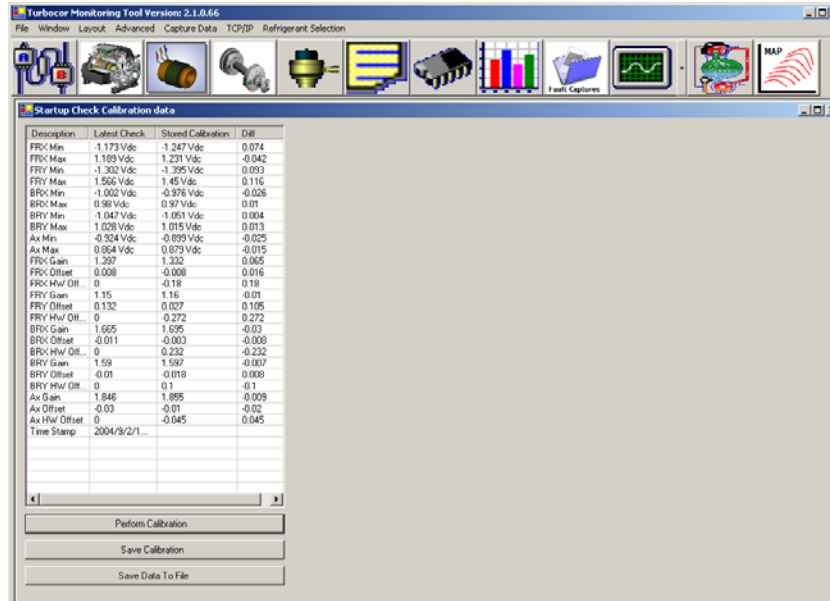

Figure 4-53 Monitor Program - Startup Check Calibration
5. From the menu bar, select “Advanced”→ “Bearing Calibration”. The “Startup Check Calibration Data” window should open, as shown in Figure 4-53.